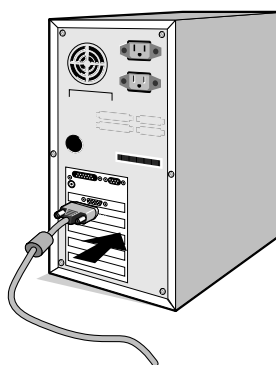

Figure A.1
2. **For the PC with Analog output:** Connect the 15-pin mini D-SUB signal cable to the connector of the display card in your system (**Figure A.1**). Tighten all screws.